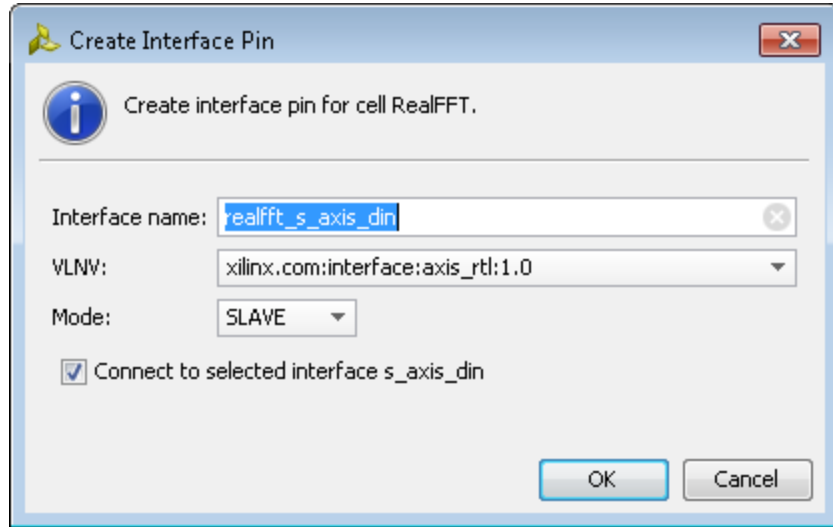

Figure 251: Naming an Interface Pin
12. In the Create Interface Pin dialog box, change the Interface name to realfft_s_axis_din as shown in Figure 251.